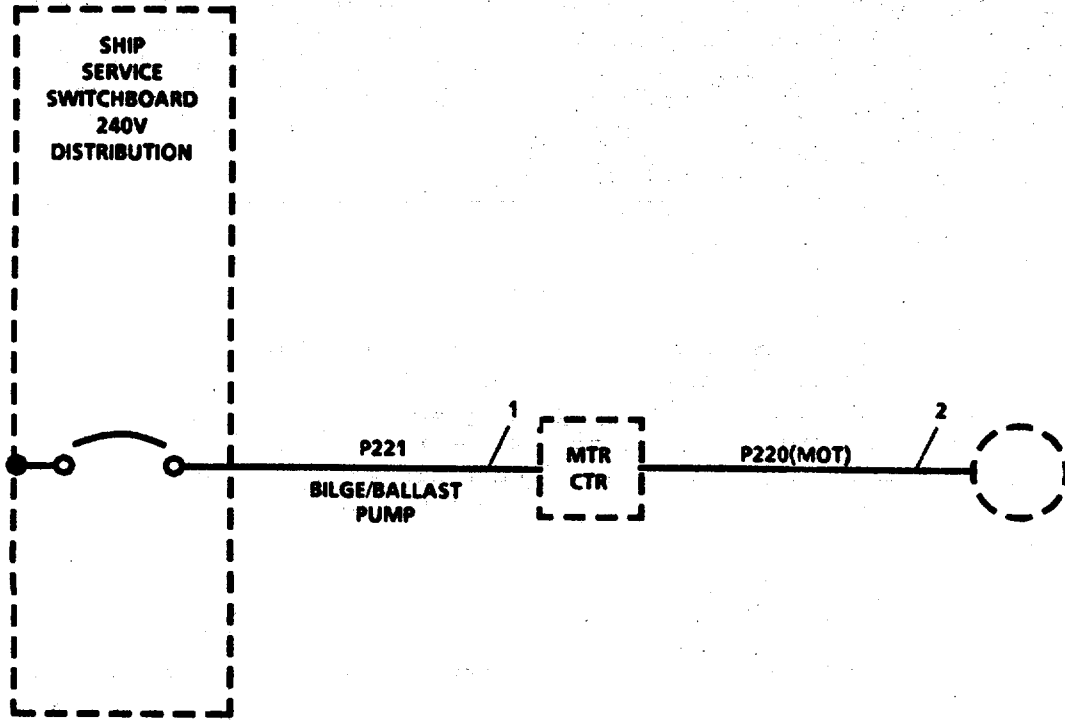

FIGURE 3-146. *Bilge/Ballast Pump Power Distribution.*
**3-160. Repair Bilge/Ballast Pump Power Distribution. (Figure 3-146)**